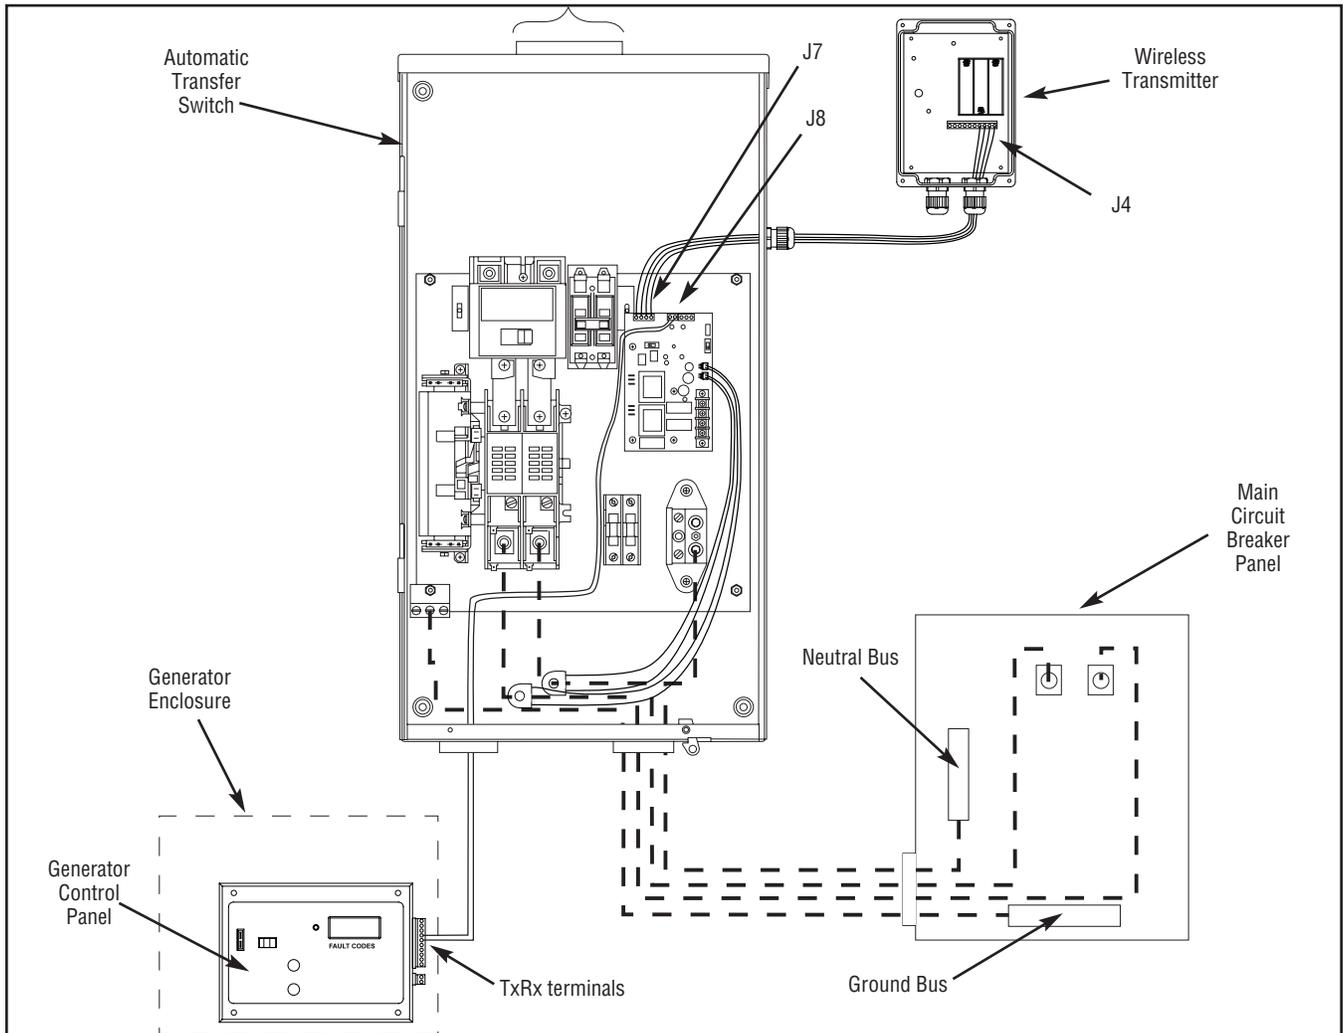

Figure 3: Transmitter Wiring Diagram
Complete the following connections between the wireless StatStation components, the transfer switch, and the generator, as shown in Figure 3.
1. Using installer supplied 18AWG stranded wire, connect transmitter's ground terminal (J4, 7th terminal from left), to 'GND' terminal on transfer switch control board (J7, leftmost terminal). See Figure 3.